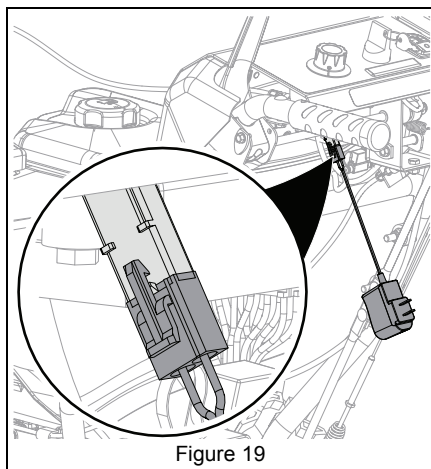

Figure 19
2. Connect battery connector to charger. See Figure 19.